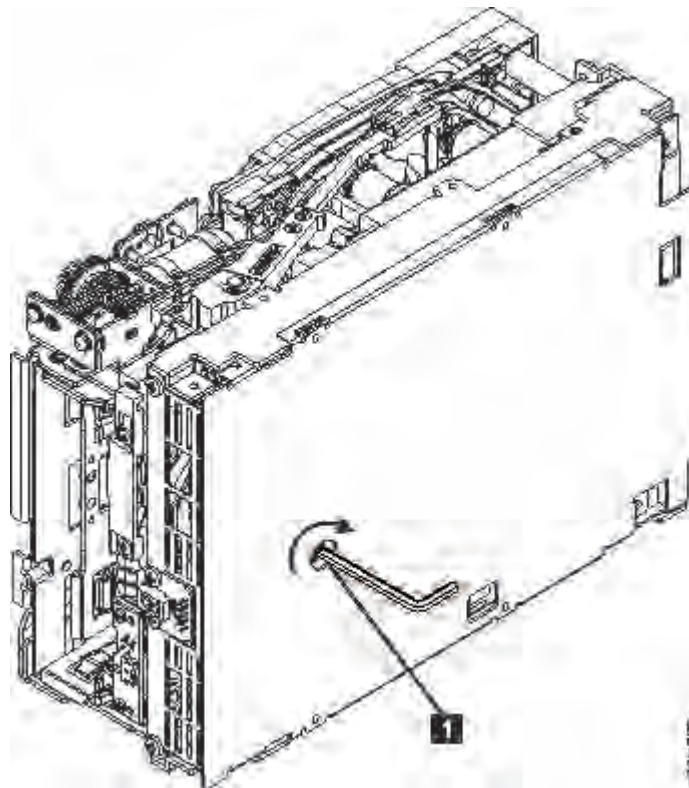

Figure 122. The hex wrench rewinds tape into cartridge
3. From the bottom of the drive, locate the access hole (1 in Figure 122 on page 247).
Note: Be sure to keep tension on the tape as the LBA is drawn into the cartridge by using a hex wrench as shown in Figure 122 on page 247.